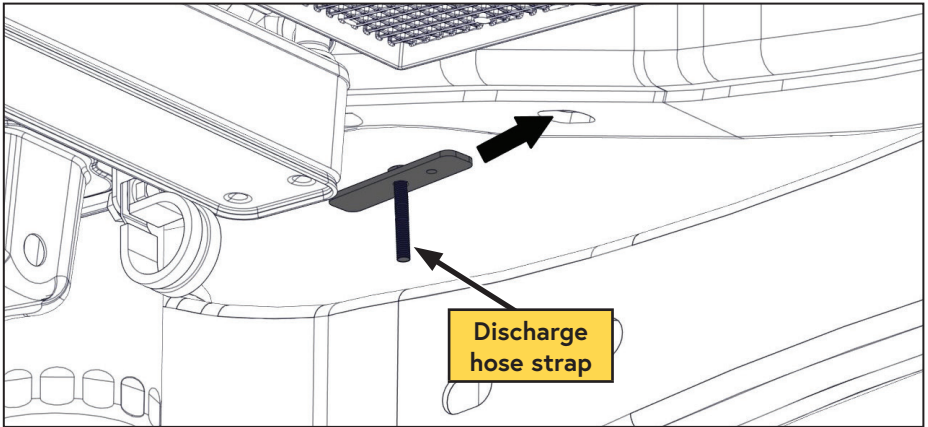

Figure 66 — Discharge hose strap
- ☐ Slide the discharge hose strap into the passenger side frame (Figure 66).